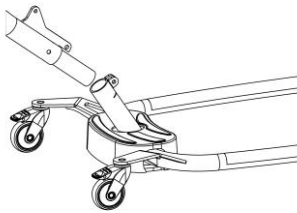
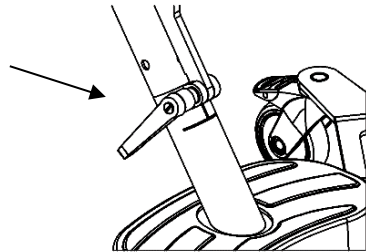

Fig. 1.6B
Fig. 1.6C
2. Assembly the mast/lifting arm with the base part (Fig. 1.6B) and tighten the hand screw (Fig. 1.6C)